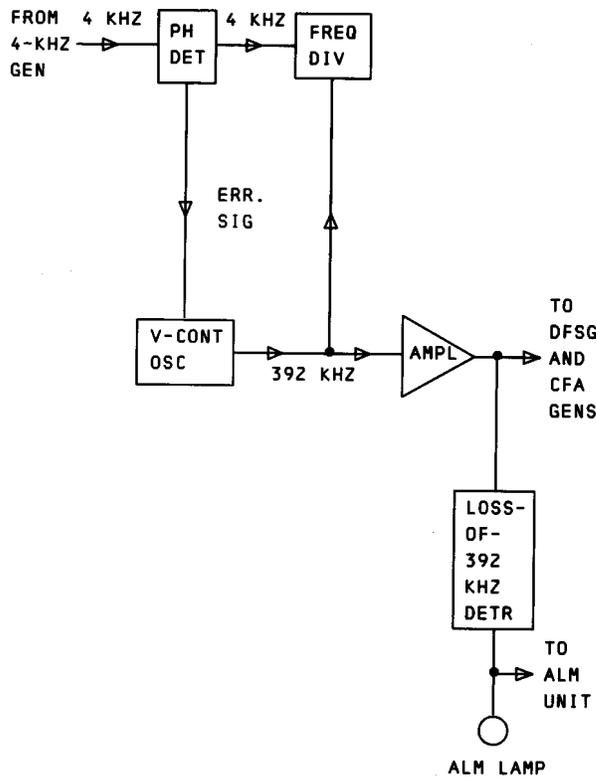

Fig. 13—392-kHz Generator—Block Diagram
2.38 The 392-kHz generators use a 392-kHz oscillator synchronized to a 4-kHz pulse stream which is derived from the office 64-kHz primary frequency source by the 4-kHz sync generator (2.29). The basic frequency-generating circuit is shown in Fig. 13.